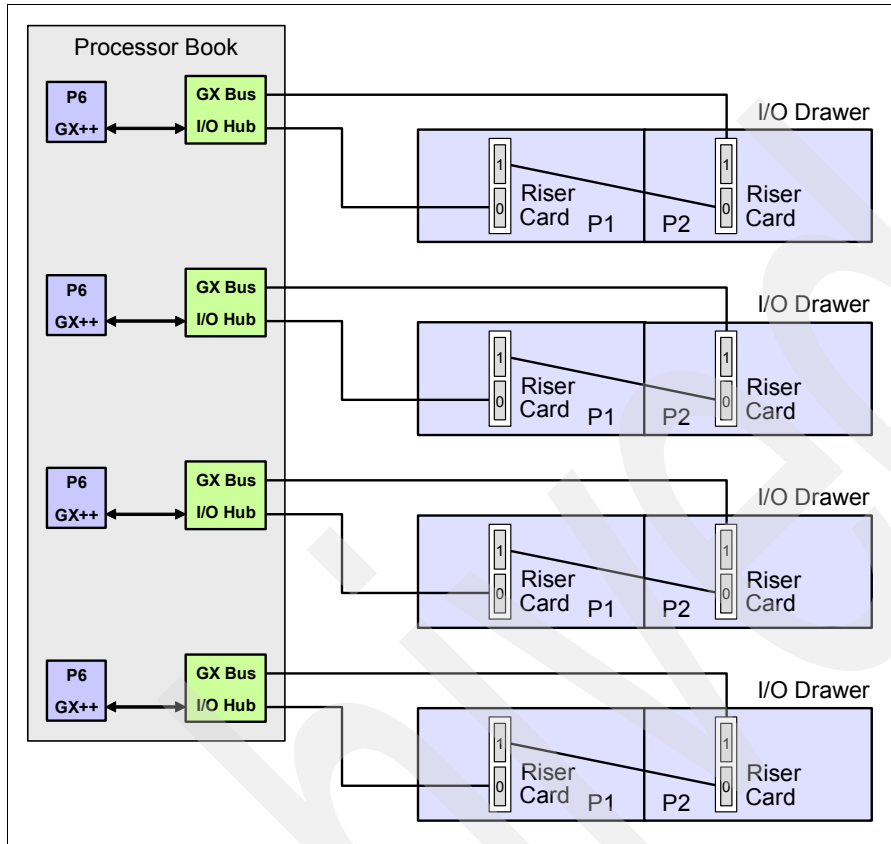

Figure 3-34 Single loop I/O drawer cabling
- ▶ Single-loop (Figure 3-34 on page 159) mode connects an entire I/O drawer to the CEC using one RIO-2 or 12x loop. In this configuration, the two I/O planars in the I/O drawer are connected together using a short cable. Single-loop connection requires one RIO-2 Loop Attachment Adapter (#1814) or GX Dual-Port 12x (#1816) per I/O drawer.
Figure 3-34 shows single loop I/O drawer connections.